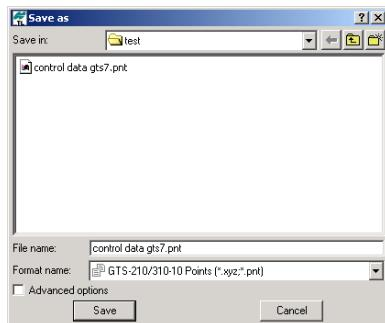

Figure E-4. Save File for Total Stations
3. Enter a *File name* and click **Save** (Figure E-4).